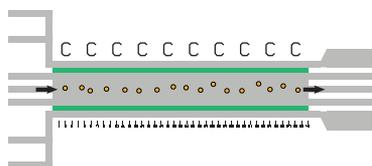

Figure 8. Cell loading profile
6. Cells should be evenly dispersed throughout the center of the chamber between the inlet port for well 6 and the outlet port for well 7 (Figure 8). Arrows indicate the direction of cell flow through the chamber.